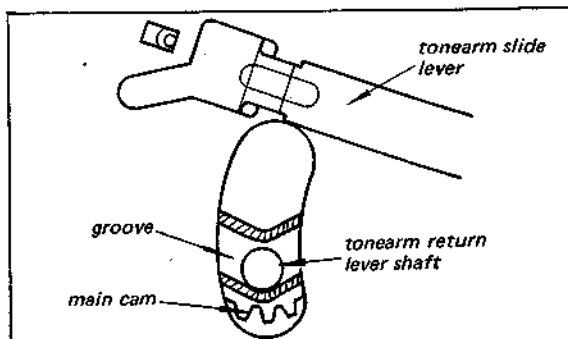

Fig. 3-11. Motor on/off switch position adjustment (1)
1. Make sure that the shaft of the tonearm return lever is set correctly to the groove of main cam as shown in Fig. 3-11.